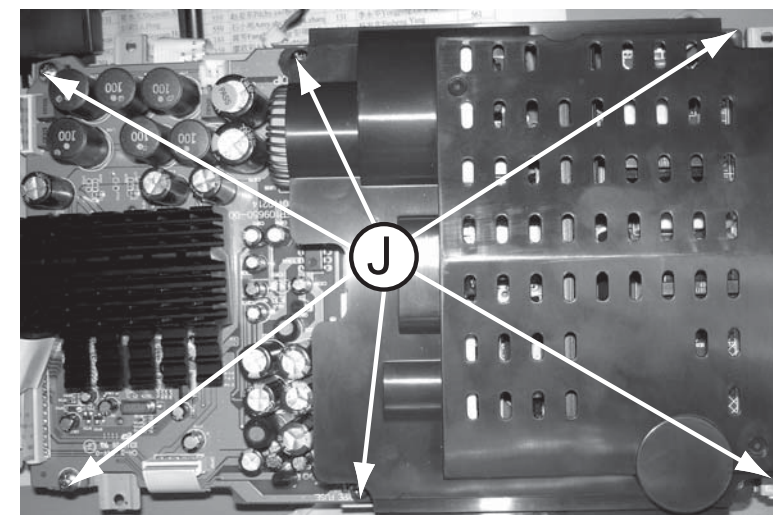

Figure 10
- 1) Loosen 6 screws "J" to remove the power board as shown in figure 10.